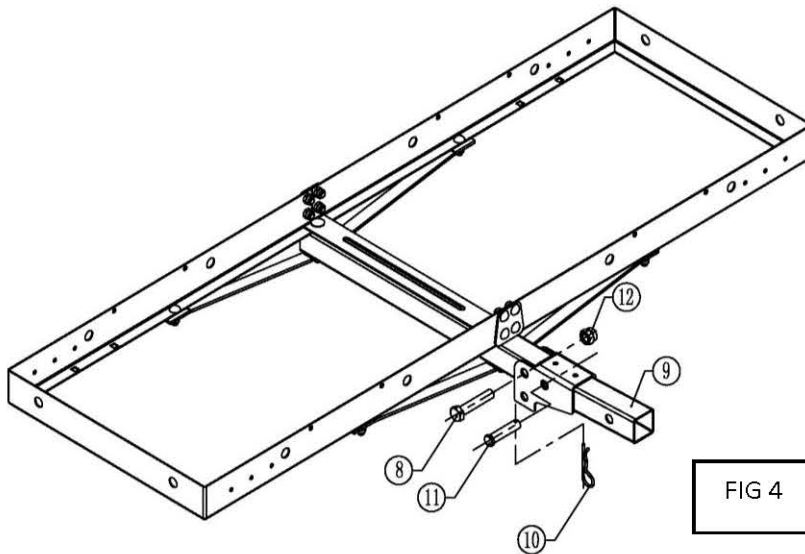

FIG 4
**Step 4** Insert 2" shank (6), into the foldable connection bar (9), align all the holes and lock large holes with M16 × 80 hexagon head bolt (8), and M16 locknut (12). 5/8" Pin (11), is needed for horizontal rotation and rotating 90 degrees, insert clip (10), securely into the hole in 5/8" Pin (11), to secure it in place. See FIG 4